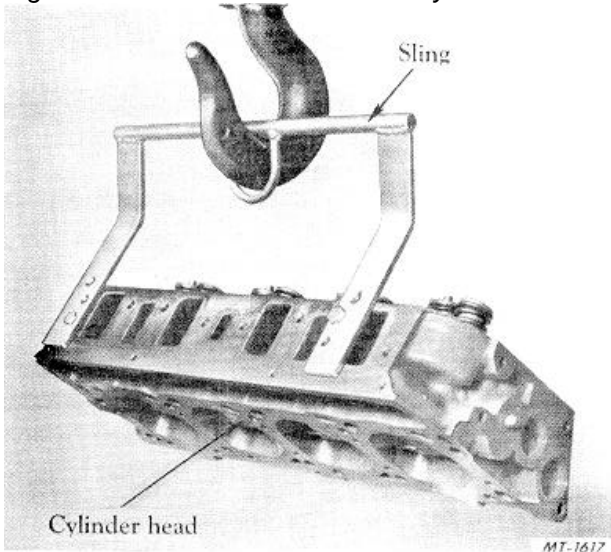
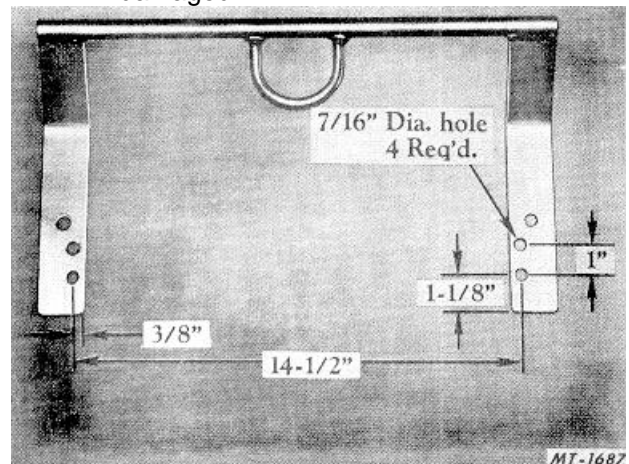

Fig. 32 Cylinder Head Sling SE-1896 Installed on Head
Fig. 33 Illustration for Reworking Slings in Field
- a. Install cylinder head sling SE-1896 to the cylinder head using 3/8-NC x 3/4 capscrews, Fig. 32. However, before this can be accomplished with the present sling in the field, it will be necessary to rework the sling by drilling four 7/16 inch diameter holes to dimensions as shown in Fig. 33 for mounting sling to each cylinder head.